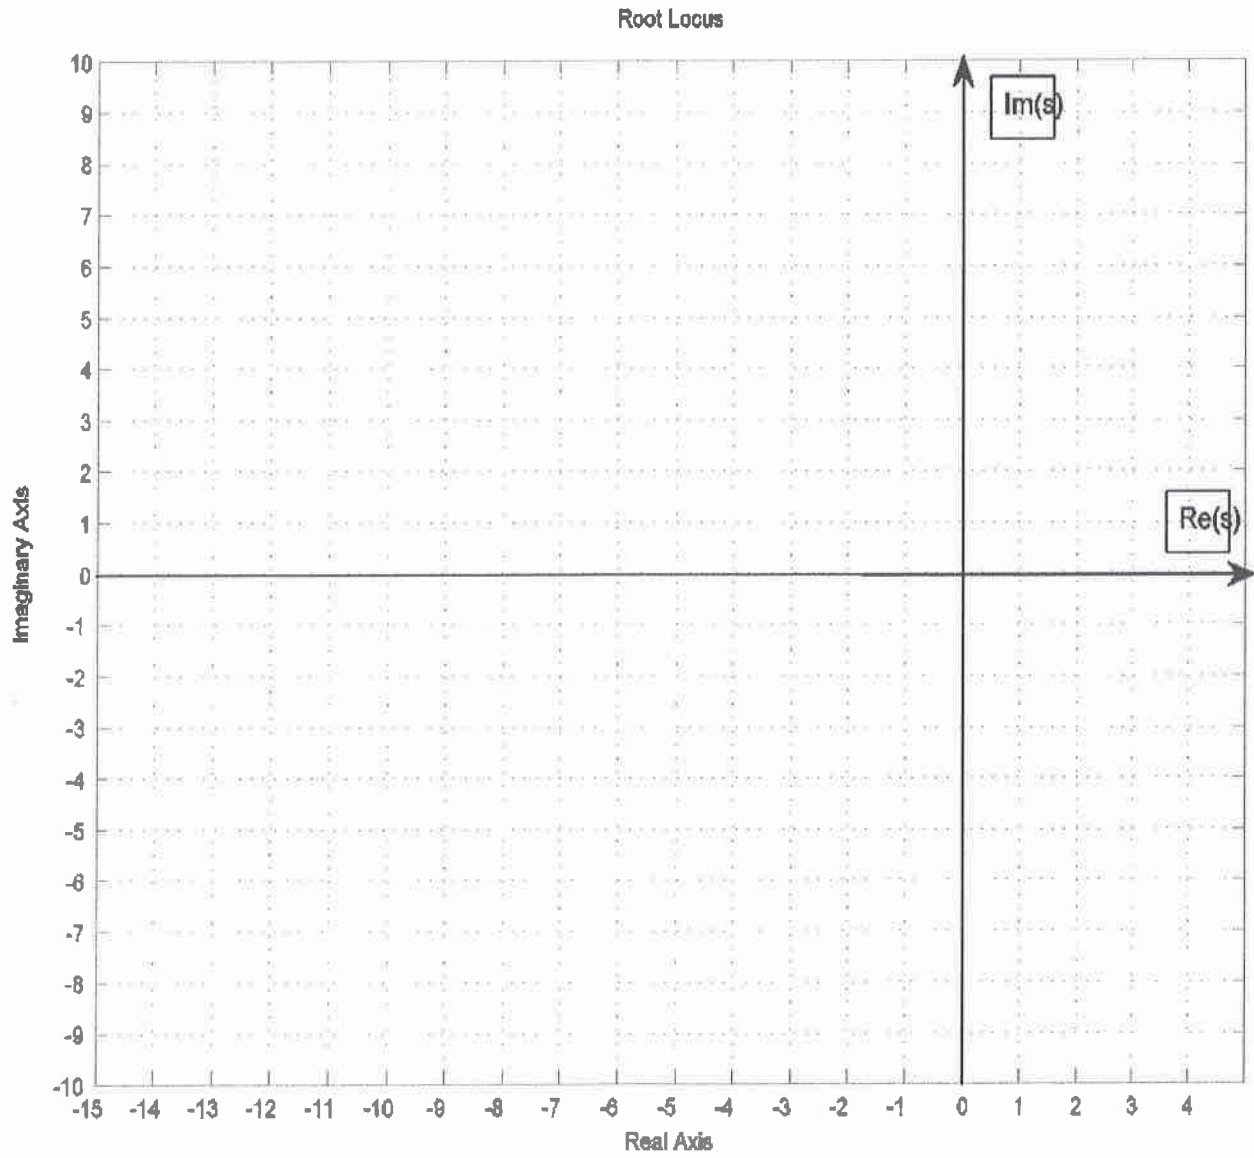

Figure Q6.1 – Place Your Root Locus Graph Here
- 2) **(8 marks)** In the space provided in Figure Q6.1, sketch a detailed Root Locus for the system, including break-away/break-in coordinates, asymptotes, angles of departure from complex poles, a centroid, etc. If you are using estimates, explain why.